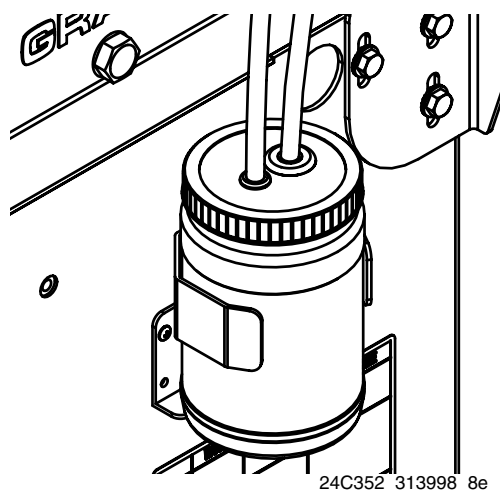

FIG. 17: IsoGuard Select Fluid System
2. Remove fittings from IsoGuard Select fluid cylinder inlet and outlet ports. Keep supply tube (ST), return tube (RT), and leak management tube (LT) connected to the fittings.
4. Lift the IsoGuard Select fluid reservoir (LR) out of the bracket (RB) and remove the container from the cap. Holding the cap over a suitable container, remove the inlet check valve and allow the IsoGuard Select fluid to drain. Reattach the check valve to the inlet hose. See FIG. 17.
7. Thread the reservoir onto the cap assembly and place it in the bracket (RB).
8. Push the supply tube (ST) approximately 1/3 of the way into the reservoir.
9. Push the return tube (RT) into the reservoir until it reaches the bottom.